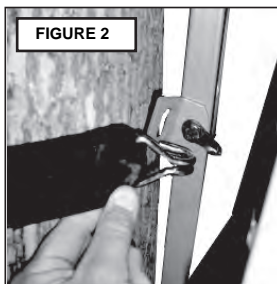

FIGURE 2
STEP 2: With the treestand in the folded position, wrap Tree Strap around the tree once and hook the other end into the tree strap bracket. (See Fig.1 and Fig. 2.) Ensure that the strap is not twisted and is laying flat against the tree.